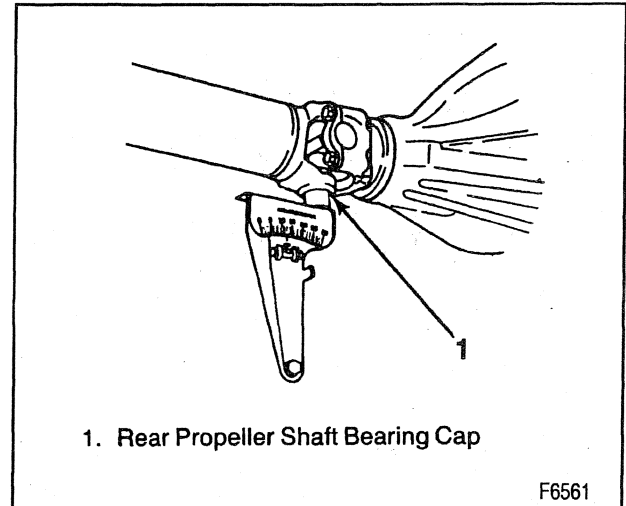

Figure 24—Measuring Rear U-Joint Working Angle
1. Place inclinometer J 23498-A on rear propeller shaft bearing cap (figure 24). Center the bubble in the sight glass and record the measurement. The